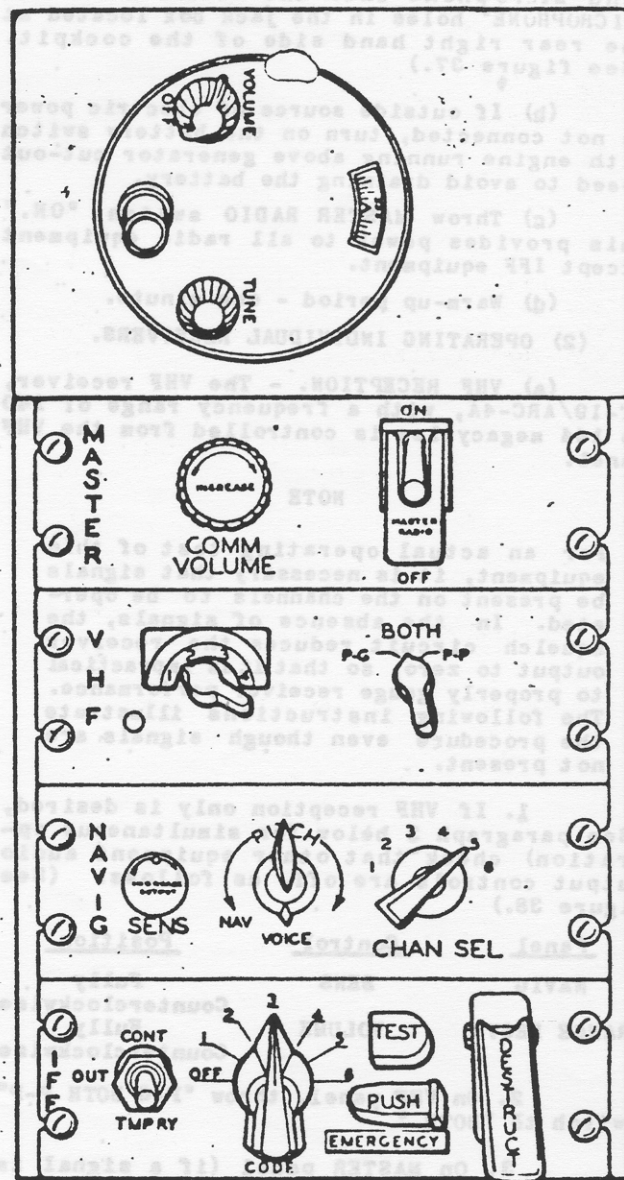

Figure 38 — Radio Console Control Panel
a. GENERAL. - The radio console panel containing the controls for operating the communication, navigation, and identification radio equipment is located in the cockpit on the right hand control shelf. (See figure 38) This airplane is furnished with the following equipment:
1. If VHF reception only is desired, (See paragraph 3 below for simultaneous operation) check that other equipment audio output controls are off, as follows: (See figure 38.)